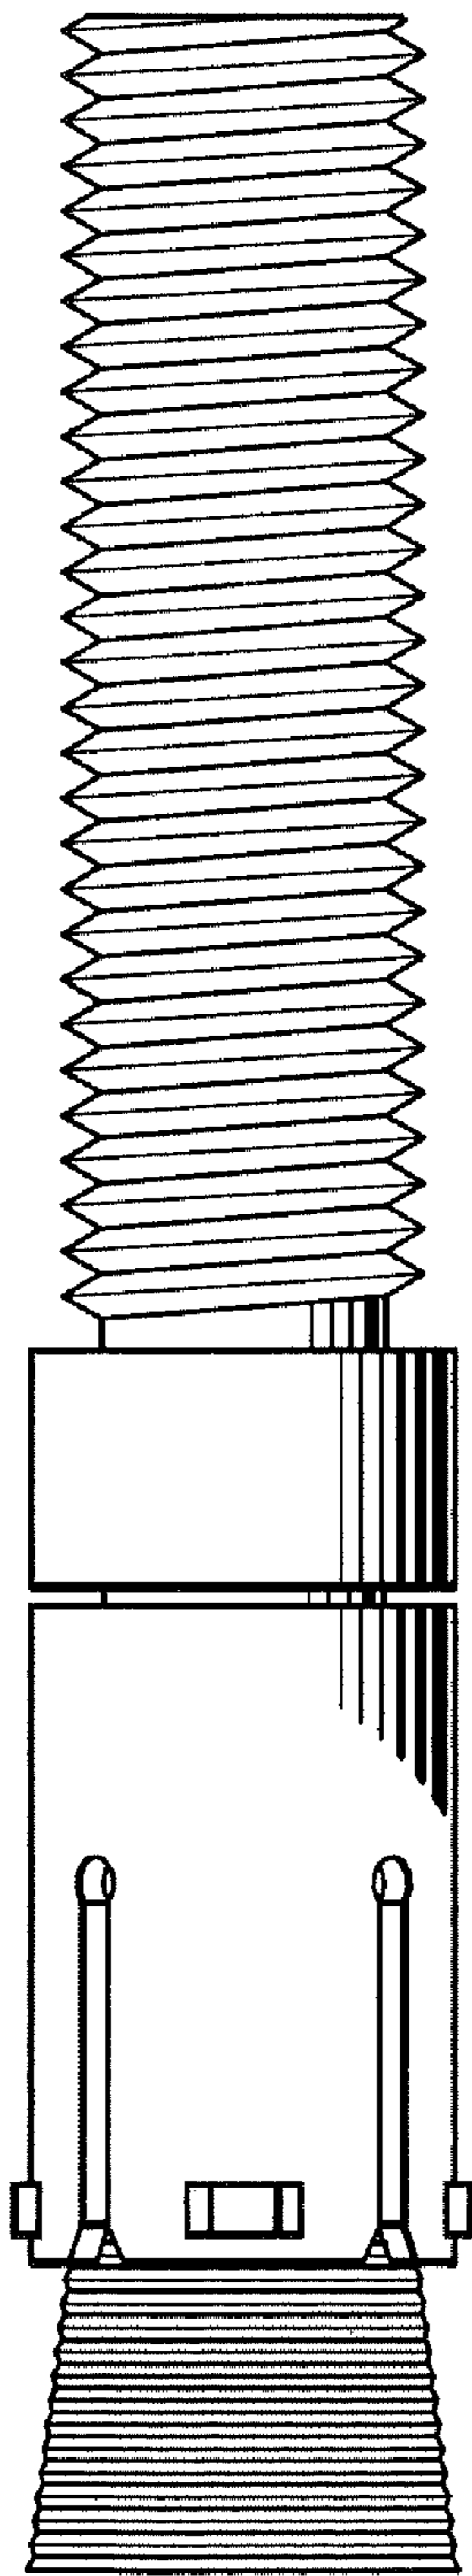

Fig. 19
- FIG. 19 is a front view of the stud having latitudinal ridges;